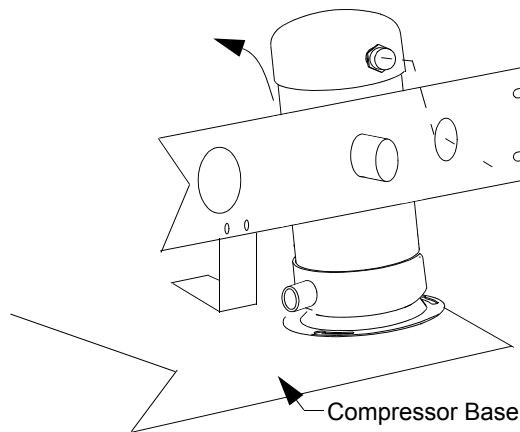

Figure 5-3: Removing the Adsorber from the Compressor
9. Carefully lift the adsorber inward until the outlet self-sealing coupling clears the rear panel and remove the adsorber as shown in Figure 5-3 on page 5-4.